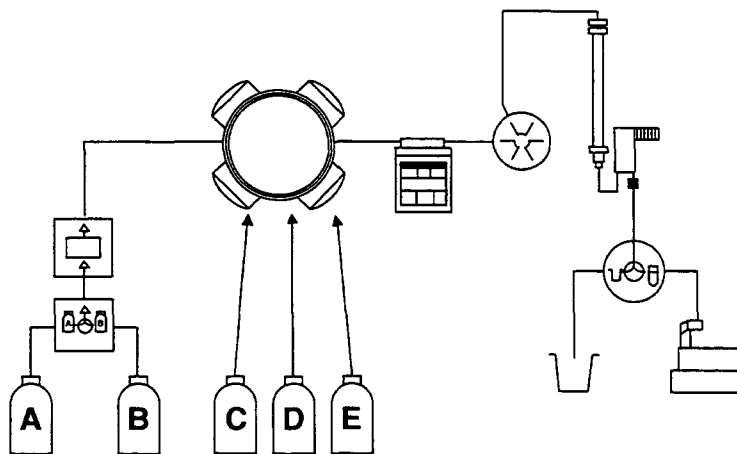
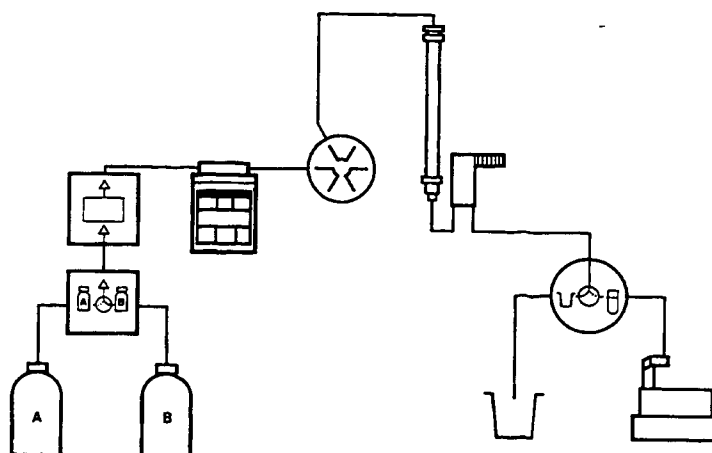

Fig. 5.1. Plumbing diagram for the Automated Econo System.
Fig. 5.2. Plumbing diagram for the Econo System (without Econo Buffer Selector and Econo Gradient Monitor).
The Econo System can be plumbed quickly and easily. Twenty-five feet of Tygon® tubing and a starter tubing fittings kit are included with the system. The kit contains luer fittings for quick tubing connections. Figure 5.1 shows a typical plumbing diagram for the Automated Econo System. Figure 5.2 shows a typical plumbing diagram for the Econo System without the Econo Buffer Selector and Econo Gradient Monitor.
2. The connection between the proportioning valve and mixer should be made with a piece of tubing less than 10 cm long. This is to maintain the accuracy of the gradients formed by the proportioning valve. Affix male luer fittings to both ends of the tubing as described above, and connect the outlet of the proportioning valve with the inlet of the mixer (see Figure 5.1).